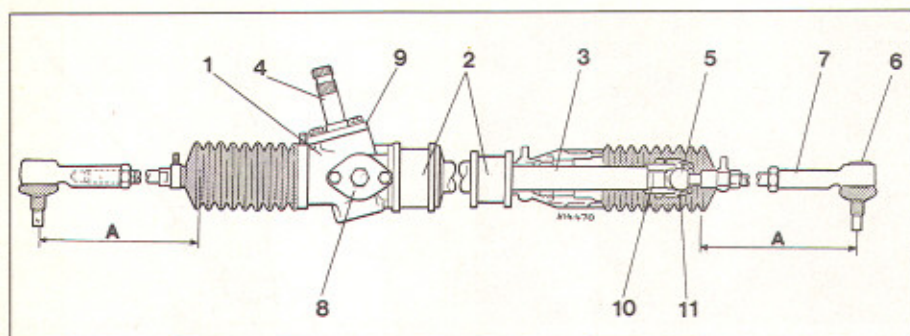

Fig. 12.39 Cutaway view of steering rack and pinion (Sec 10)
**48** These outer balljoints should be screwed down the track rod until the distance between the centre of the ball pin and the first reduced land on the inner track rod end is as specified (see Fig. 12.39).